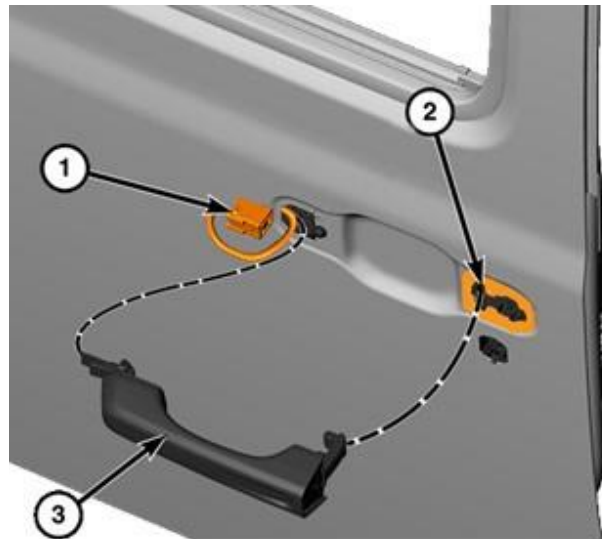

Figure 12 – Exterior Door Handle
20. Slide the door handle (3) rearward and out (Figure 12).
- (1) - Wire Harness Connector
- (2) - Door Handle Gasket
- (3) - Door Handle
21. Disconnect the wire harness connector (1) then remove the door handle (3) (Figure 12).
NOTE: It is not necessary to remove the door handle gasket (2) (Figure 12).
53. Connect the wire harness connector (1) to the exterior door handle (3) (Figure 12).
54. Slide the exterior door handle (3) in and forward (Figure 12).